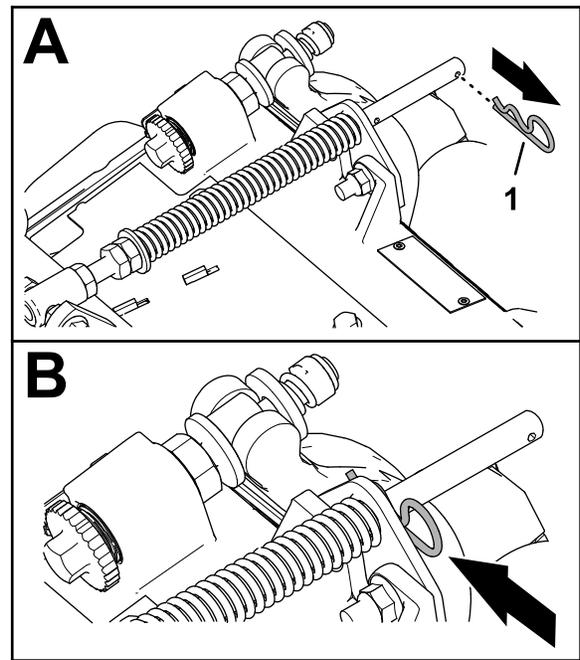

Figure 7
1. If the hairpin is installed in the rear hole of the compensation-spring rod—remove the hairpin and insert it in the hole next to the bracket (Figure 7).